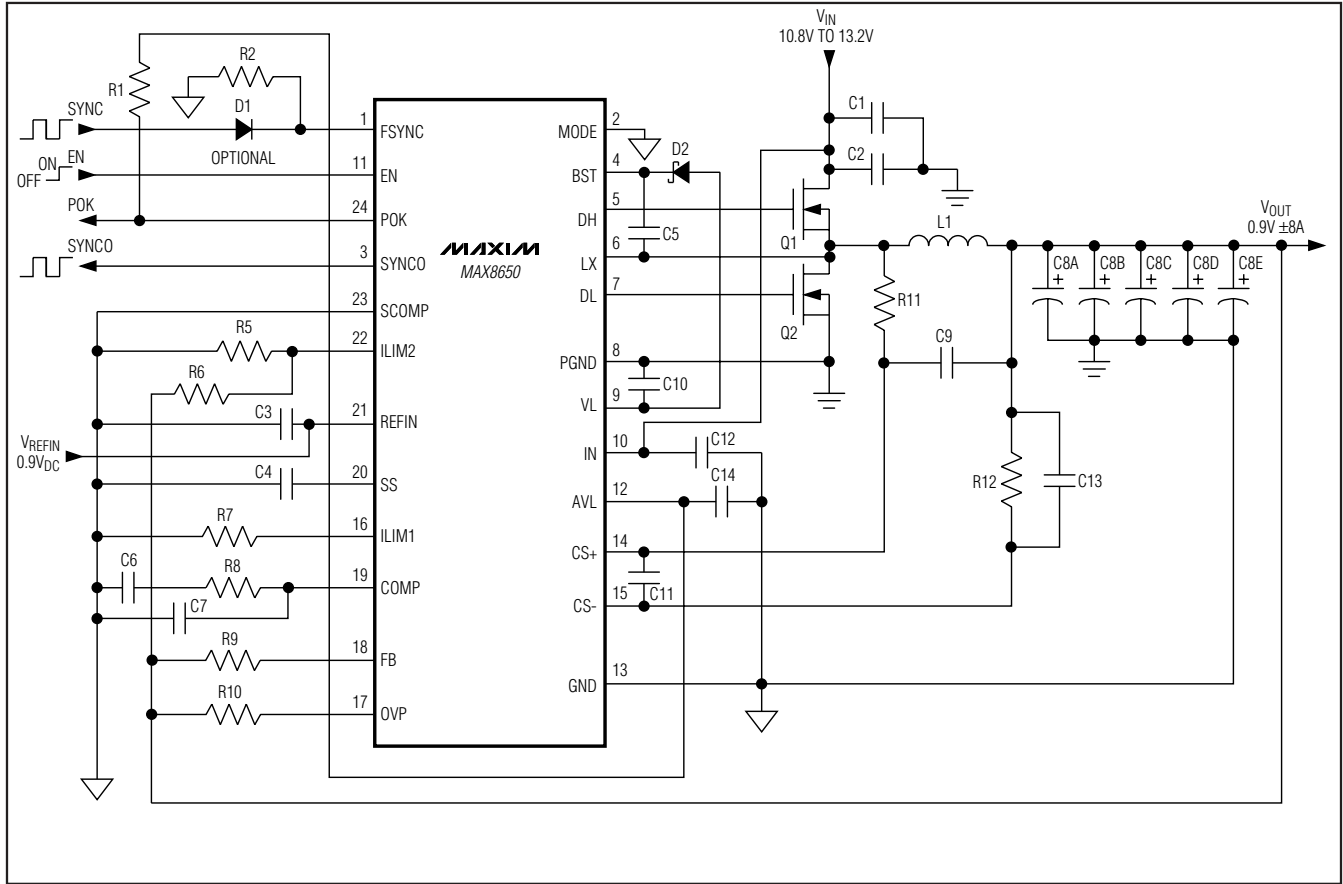

Figure 4. Applications Circuit with 400kHz Switching, 12V Input, and 0.9V ±8A Output
**Table 2. Component List for Figure 4**